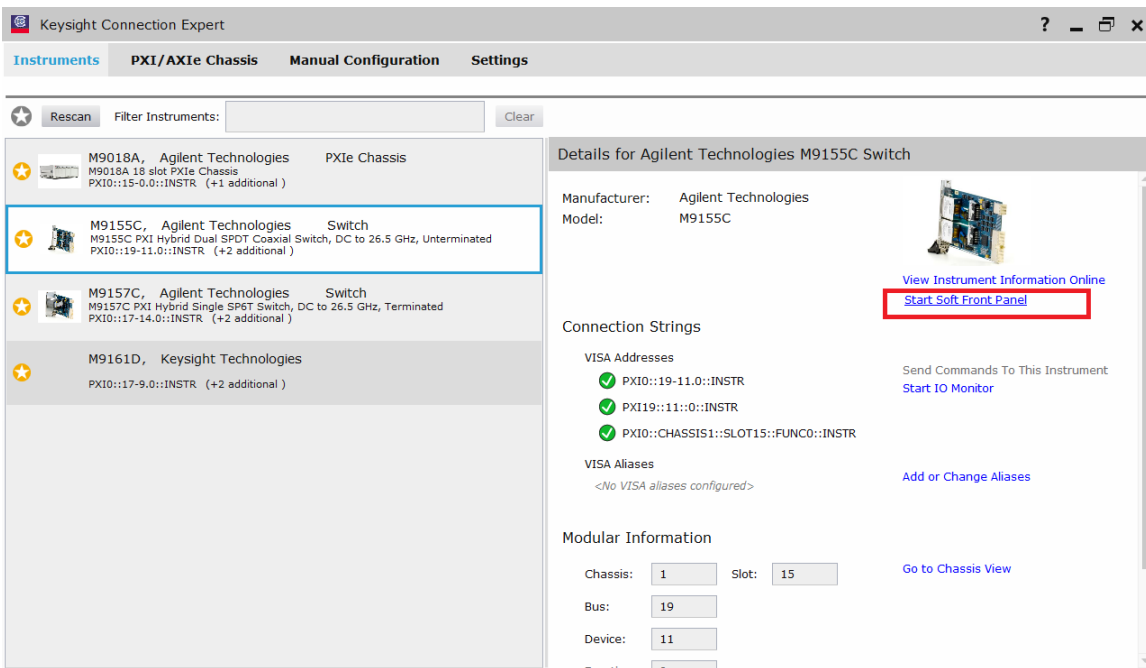

Figure 1-2 Launching the SFP from the Keysight Connection Expert
- 2 Launch the soft front panel (SFP) software from **Start > All Programs > Keysight > MWSwitch > MWSwitch SFP** or from the Keysight Connection Expert. On the Keysight Connection Expert, select the respective M9155/6/7C or M9161D module and click **Interactive IO** or **Installed Drivers**, as shown in **Figure 1-2**. If you click **Interactive IO**, the SFP will launch. If you click **Installed Drivers**, select the SFP row and click **Start SFP** to launch the SFP.